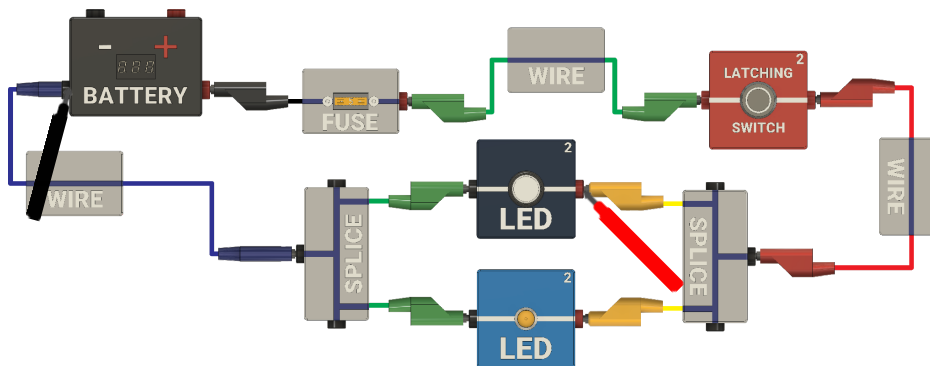

Figure 6: Voltage Measurement at large LED 2
- a. Place the multimeter's positive probe on the connection point just before large LED 2. See Figure 6